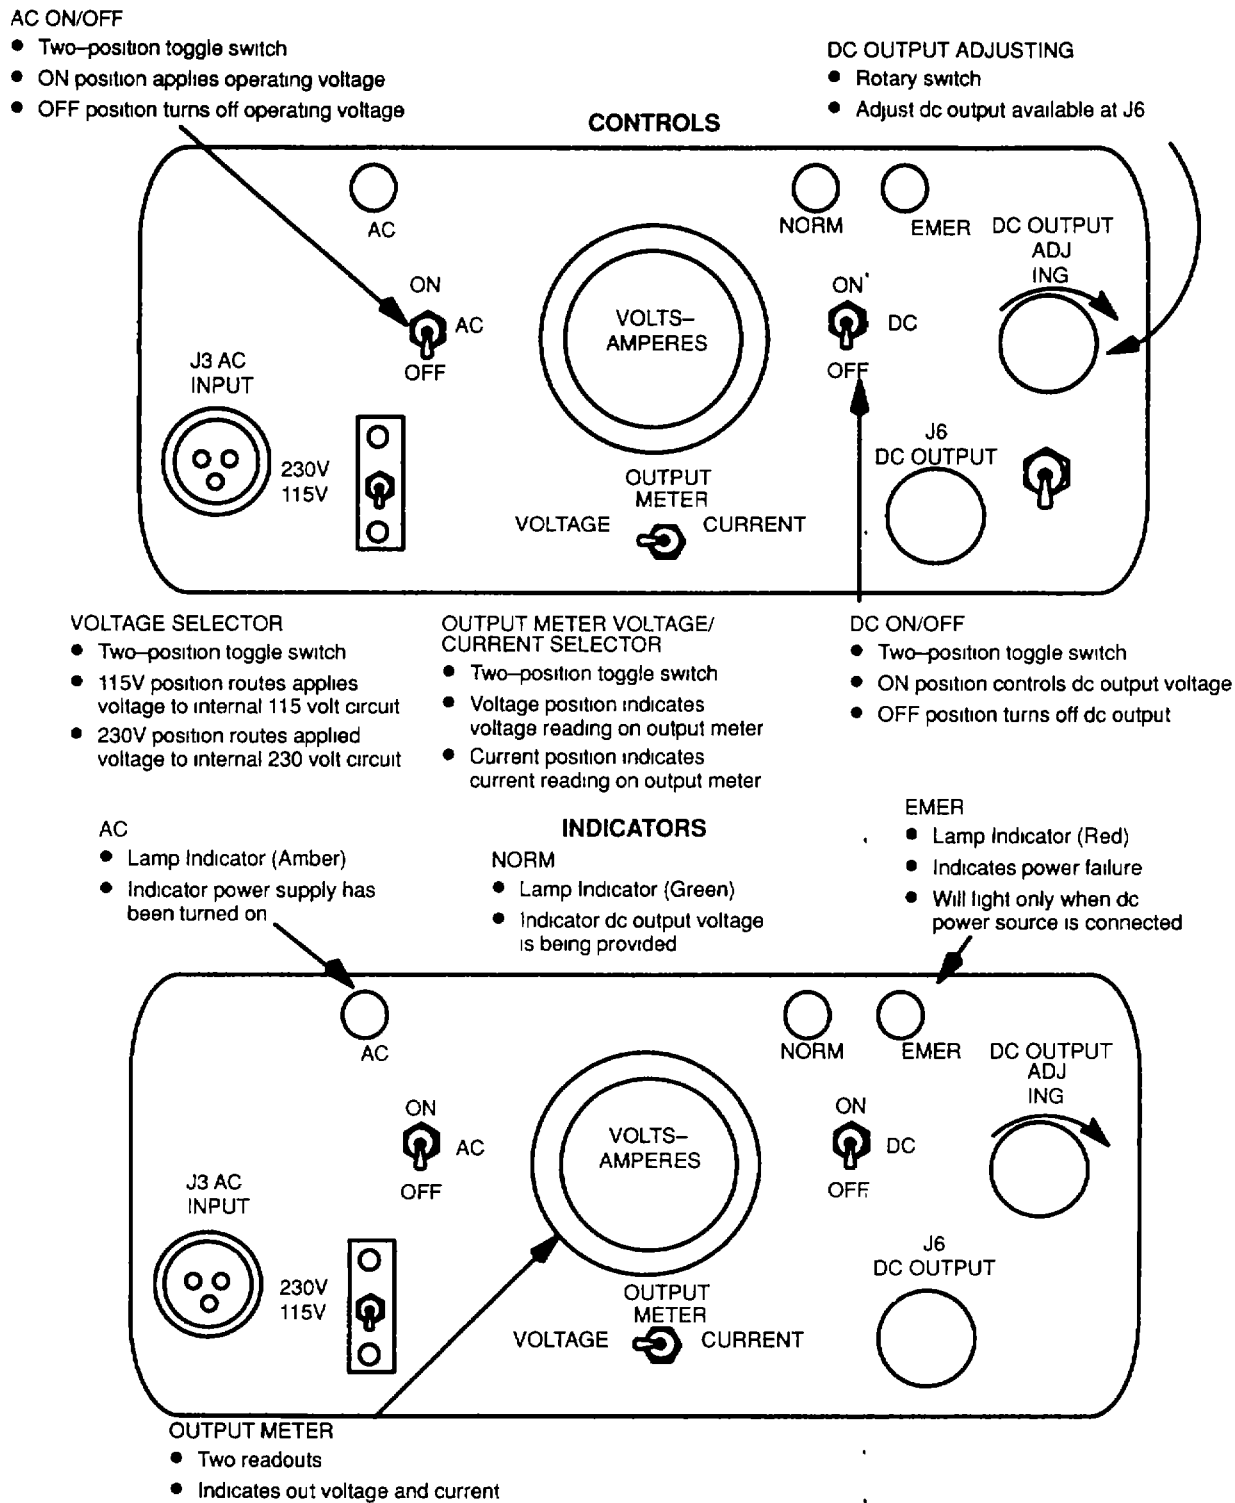

Figure 2-5. Army Radio Power Supply PP-6224 A/U Controls and Indicators (Barge 1)
- (1) Turn power supply (Figures 2-5 and 2-) ac voltage selector switch to 115 V 50-60 400 cycle position.
- (2) Turn power supply POWER ON/OFF switch to ON Green ac ON indicator lamp should light.
- b. On Army radio power supply (Figure 2-5), turn POWER ON/OFF switch to OFF. The AC ON green light will go out.